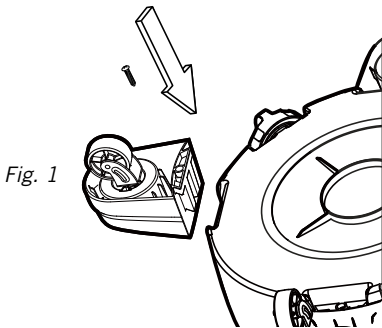

Fig. 1
- Turn the collection tank upside down and insert the four caster feet 7 into the slots on the collection tank and tighten with supplied screws 14. Verify that the caster feet 7 are mounted correctly. Do not over-tighten screws. Fig. 1.